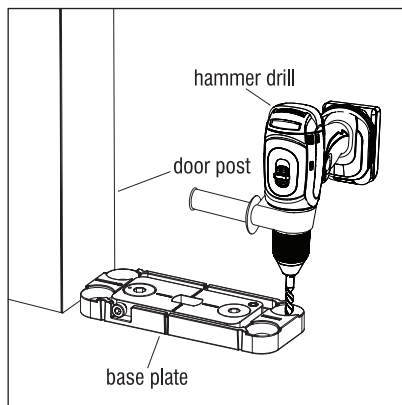

Figure 3
3. Using the base plate as a template, drill one mounting hole using a hammer drill with a $\frac{3}{16}$ " masonry bit (Figure 3).